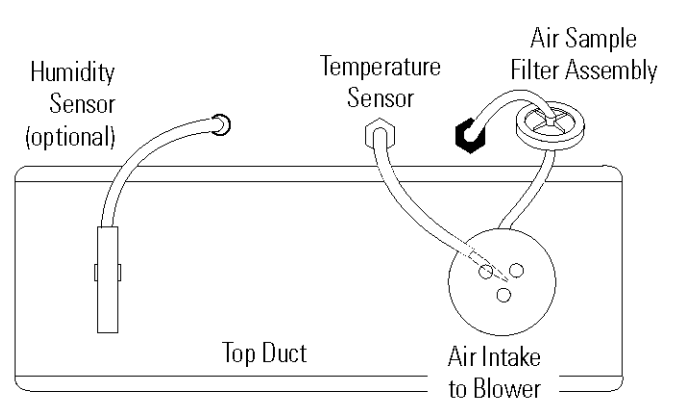

Figure 1-10. View of Chamber Ceiling
3. Insert the other end of the filter assembly into larger hole in air intake to the blower. Refer to Figure 1-10.
4. Verify temperature sensor is installed into smaller hole in intake, as in Figure 1-10.